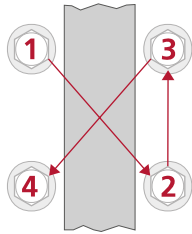

Figure 117: Tighten U-Bolts Evenly
11. Tighten the U-bolt locknuts evenly in 70 Nm increments in the proper pattern to achieve uniform bolt tension. Refer Figure 117.